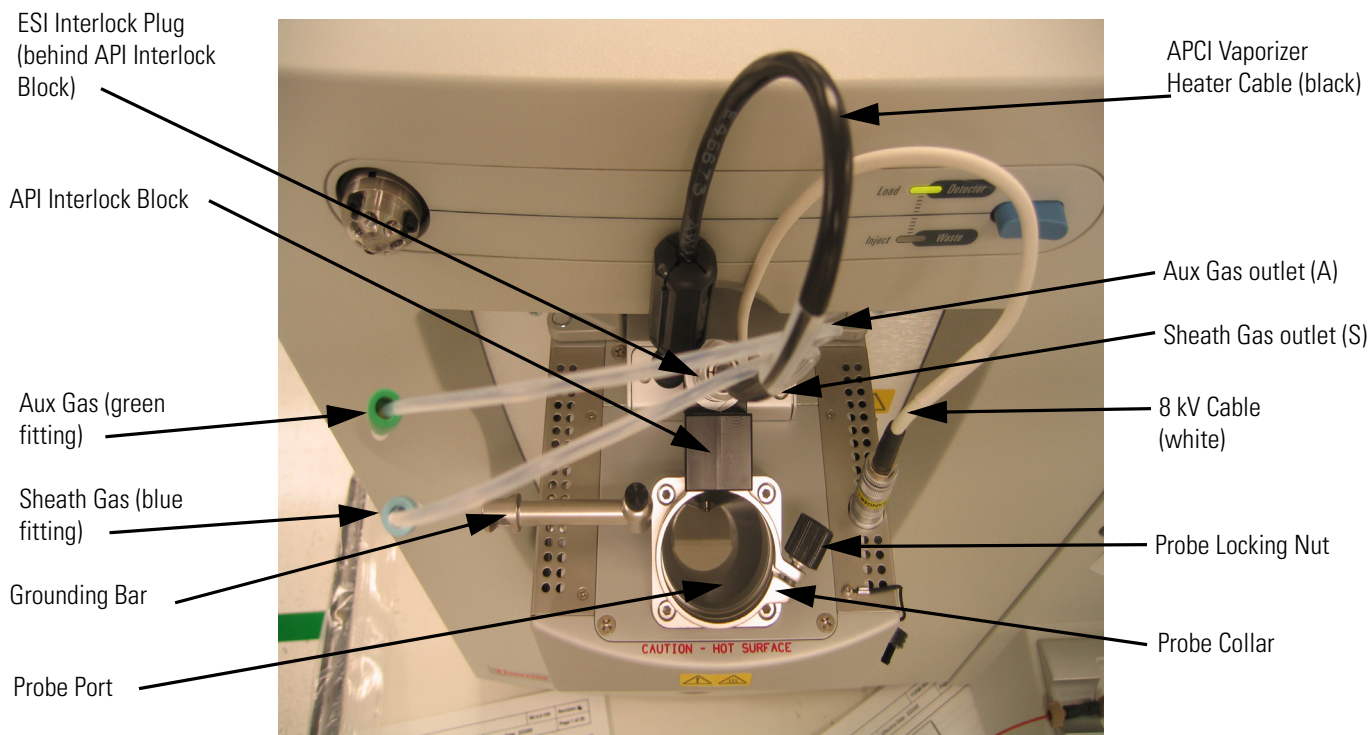

Figure 13. Ion Max-S ion source housing with some components labelled.
2. Ensure that the probe locking nut on the ion source housing (Ion Max or Ion Max-S) is loosened. The probe locking nut is shown in Figure 13.